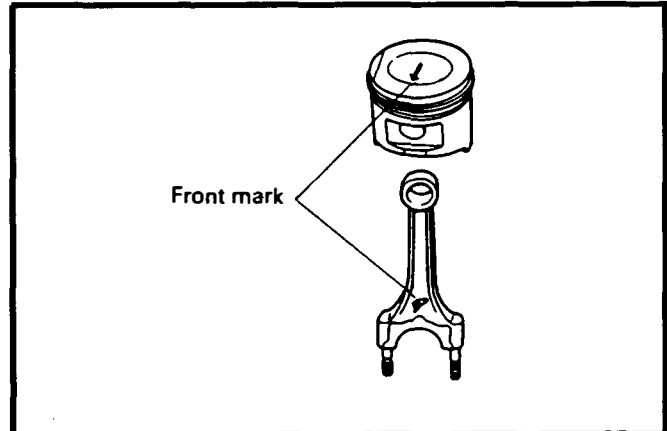

Figure 22.
5. Prepare the connecting rod and piston for assembly. The top of the piston has an arrow that must face the same direction as the front mark on the connecting rod. See Figure 22.